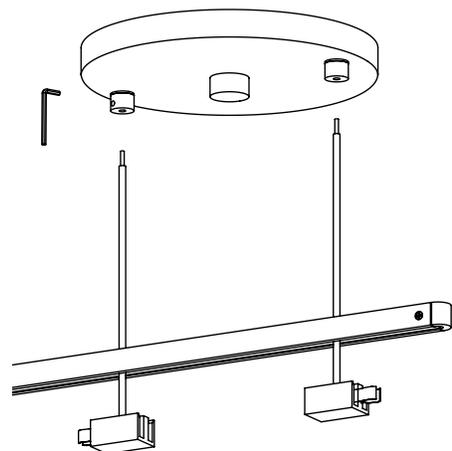

Fig. 3
1. Install the Single Cord Power Feed Hanger onto the Power Bar: pass the cord through the Power Bar, tip the Hanger 45 degrees and insert the copper springs into the center of the Power Bar, then push the Hanger up while tipping it back up 45 degrees. (Fig. 3)